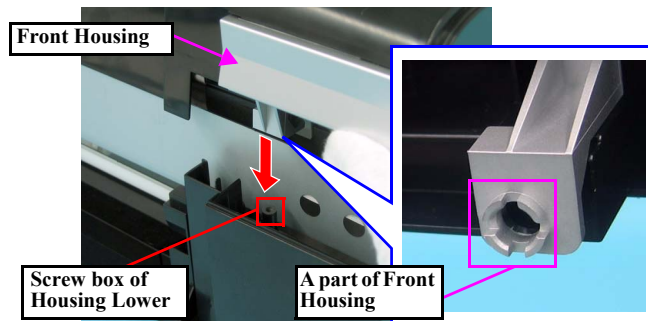

Figure 1-22. Installing Upper Housing
- As shown in Fig.1-22, match the A part of the Front Housing with the screw box of the Housing Lower.